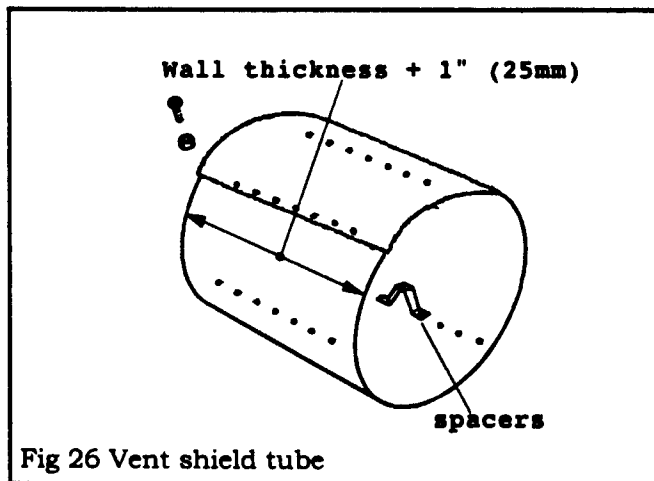

Fig 26 Vent shield tube
8.2.2.3 Prepare the vent shield tube (Fig. 26). The tube is supplied coiled around the vent terminal unit.
Cut the vent terminal pipe unit to size (Fig. 26). Cut the vent tubes squarely to length. **Important! The drain hole must be clearly outside the wall. Make sure that all Styrofoam is removed from the vent unit after cutting.**